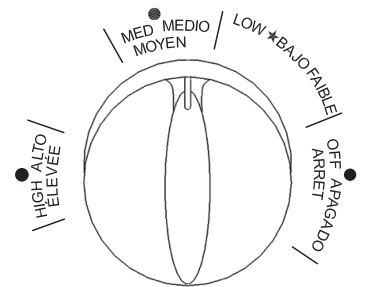

Figure 3 - Heater Control Knob - RA100NGDGD
5. Depress heater control knob and turn counterclockwise to (IGN) LOW position to light burner (see Figure 3).